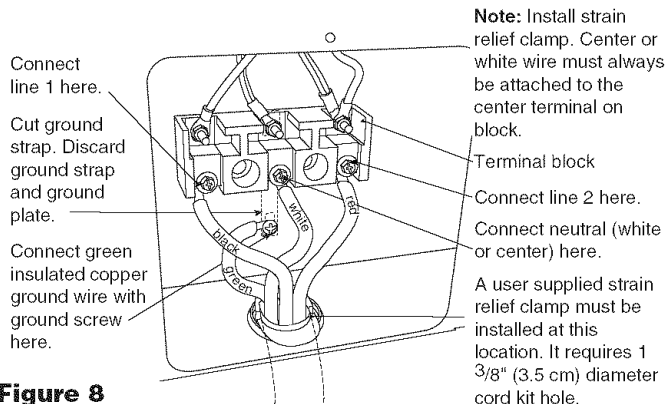

Figure 8
- 2 Connect the end connectors for line 1, line 2 and neutral and tighten securely to the terminal block. See Figure 8.
- 3 You must disconnect the ground strap. Remove the factory installed ground screw and plate to release the copper ground strap from the frame of the range. Cut and discard the copper ground strap and plate. KEEP the ground screw. See Figure 8.
frame where the ground screw was originally installed. See Figure 8.